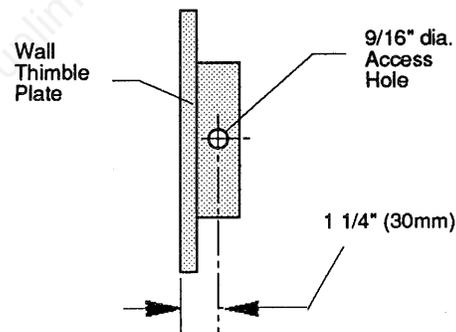

Figure 28. Drill out the wall thimble access hole.
Step 3. Drill Wall Thimble. With the stove installed at minimum clearance, insufficient room exists to back the wall thimble away from the cutout to allow access for attaching the vent cap mounting straps. Before assembly, drill a 9/16" dia. access hole through the side of the thimble near the seam to allow attachment of the straps. Fig.28.